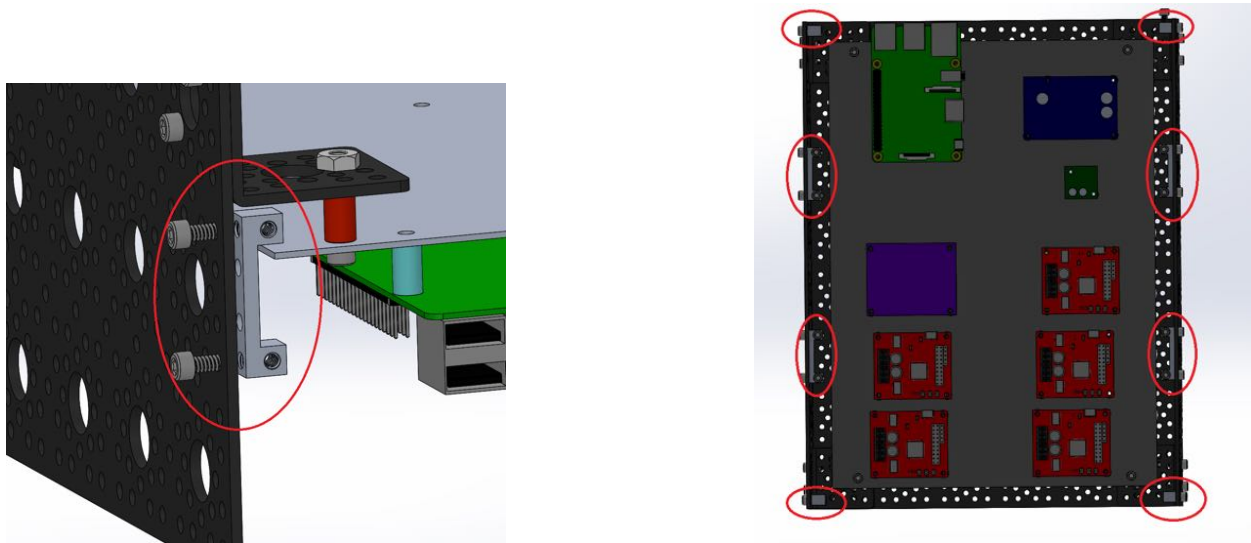

Figure 11: Dual Side Mount A locations
1. **Attach the Dual Side Mounts:** Mount Dual Side Mounts A **S17** using screws **B1** in the locations shown in Figure 11.